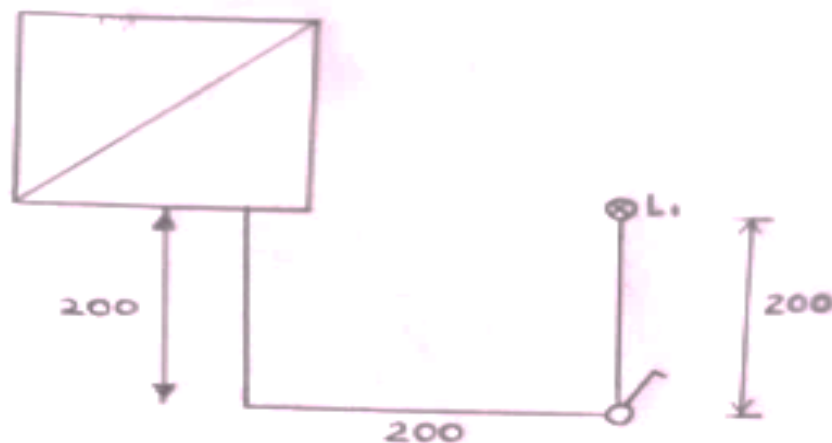

Figure 1
1. Prepare both metallic trunking work pieces for the installation of Figure 1
2. Mount metallic trunking work pieces for the installation of Figure 1
3. Figure 1 shows an electrical layout diagram of a final sub-circuit.